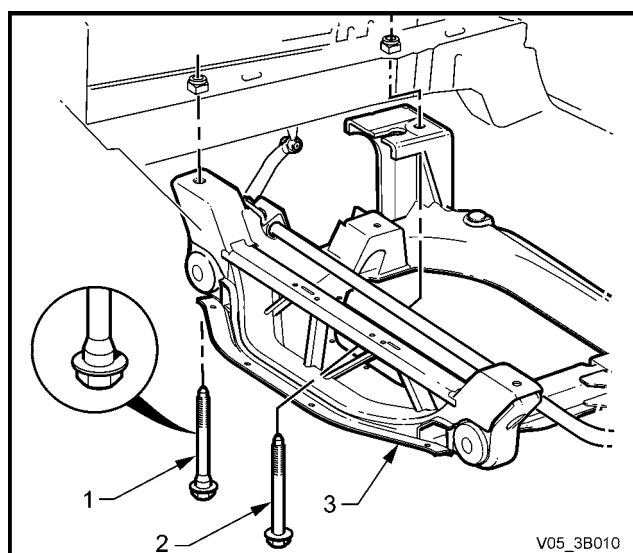

Figure 3B – 61
- 3 After raising the crossmember cradle, install two NEW front, stepped bolts ('1' in Figure 3B-61). This will correctly align the crossmember to the side frames.
- 4 Install two NEW rear, plain shanked bolts ('2' in Figure 3B-61) to the two rear positions and tighten all four bolts to the correct torque specification.